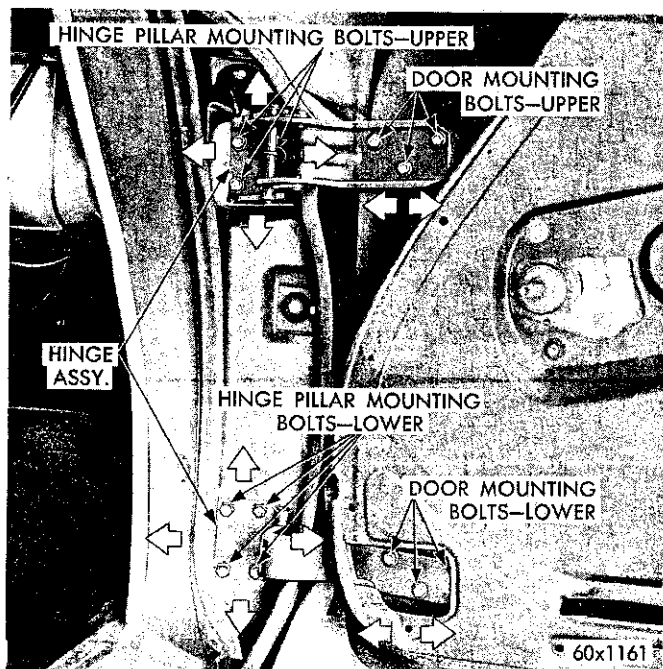

Fig. 6—Front Door Hinge Assembly (Chrysler)
- (1) Remove the trim panel.
- (2) Place a jack under the door as near the hinge as possible. (This will hold the weight of the door as the hinge bolts are loosened).
- (3) Scribe a line around the upper and lower hinge.
- (4) Loosen the upper and lower hinge bolts (Fig. 6).
(1) Moving the door forward or rearward is accomplished by loosening either the upper or lower hinge bolts. (See Fig. 6).
(2) To move the upper portion of the door forward or back (trim panel removed), loosen the upper hinge bolts and either pull or push the upper portion of the door in the desired direction.
(3) Tighten the hinge bolts and inspect the fit.
(4) To move the lower portion of the door forward or rearward (trim panel removed), loosen the lower hinge bolts and either pull or push the lower portion of the door in the desired direction.
(5) Tighten the hinge bolts and inspect the fit.
(6) When correct, reinstall the door trim panel.